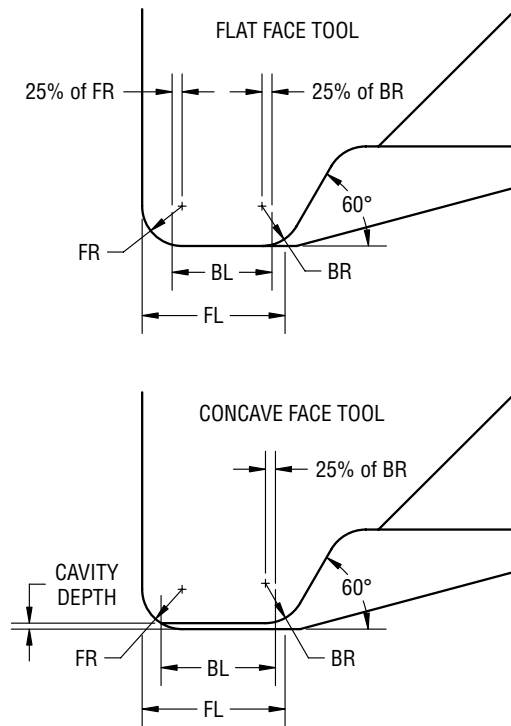

Figure 10 & 11 – Bond foot dimensions of a flat face and concave wedge
The bond length (BL) for a flat-face wedge (see Figure 10) includes 25% of the BR, 25% of the FR, and the BF. For a concave wedge (see Figure 11), the BL begins where the concavity depth truncates the FR in the center of the BF and includes 25% of the BR.